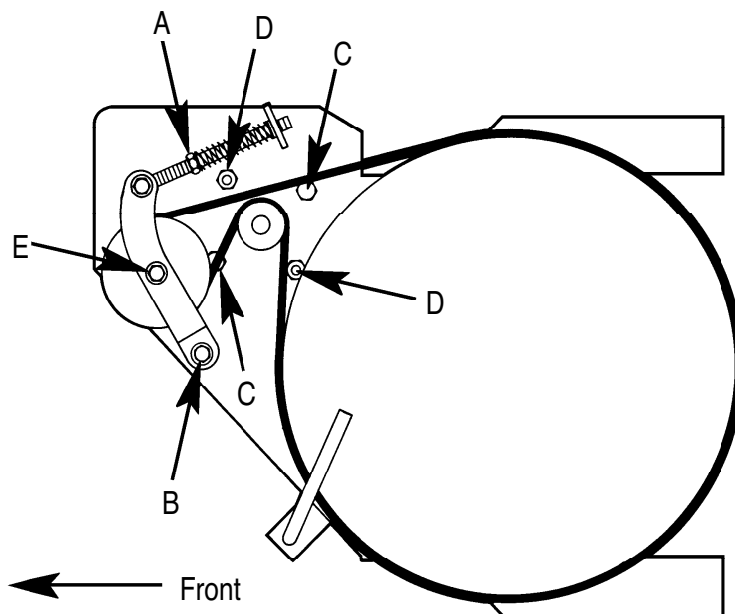

FIGURE 2
- 3 See Figure 2. Turn nut "A" counterclockwise to loosen the belt tension.